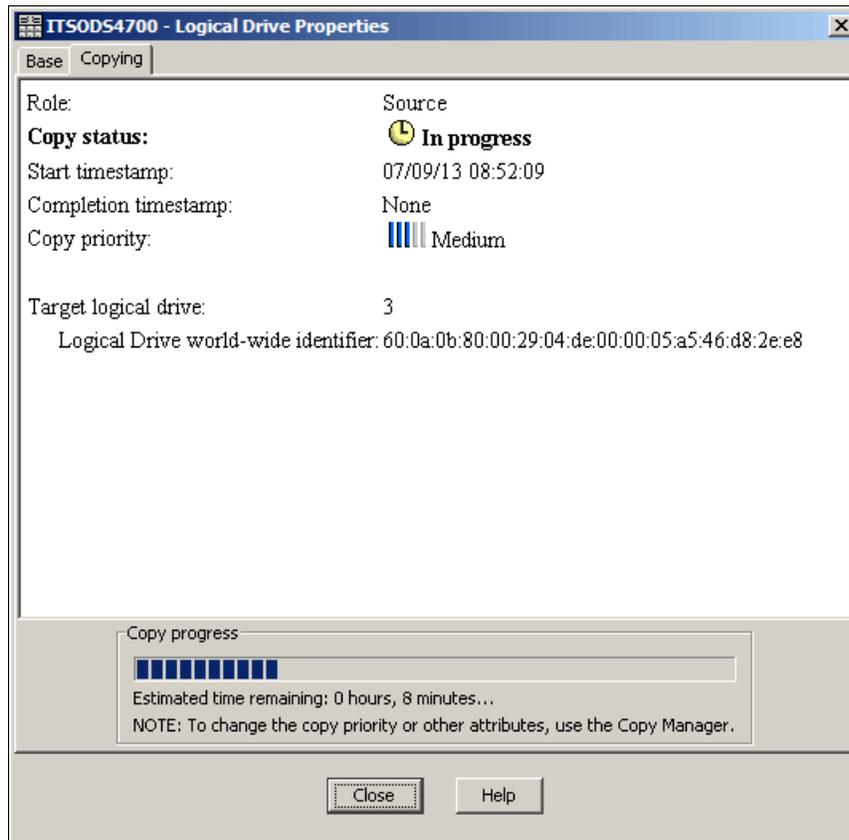

Figure 9-10 Logical Drive Properties: Copying tab
3. If the logical drive that you selected is part of a VolumeCopy relationship, then the Copying tab is present. Select the **Copying** tab (Figure 9-10).